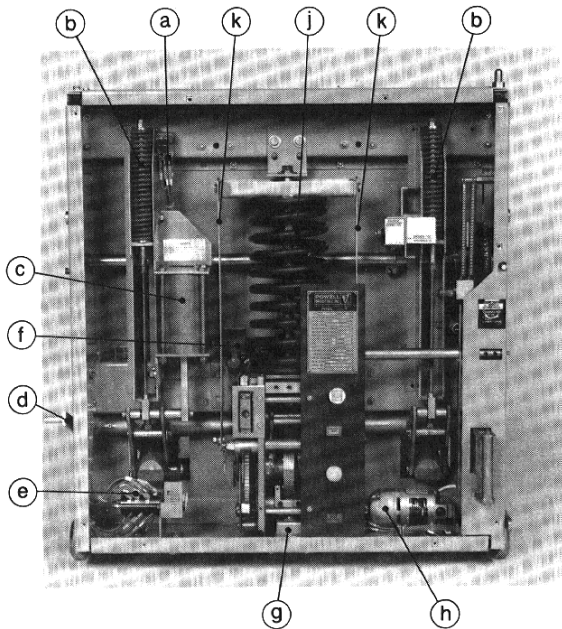

Figure 3. Front View of a POWL-VAC Circuit Breaker with Cover Removed
Removal of nine (9) holding screws enables the front cover to be removed, giving access to the stored energy mechanism and its interlocks, auxiliary switches, levering-in operators and interlocks, operating motor and motor cutoff switch (Figure 3).
prop roller and the secondary trip prop is controlled by the primary trip prop adjusting screw. When the trip shaft is rotated by the action of the manual trip plate or the electric trip solenoid, the secondary trip prop moves down and permits the primary trip prop to move upward, thus permitting the main linkage to move upward and the jack shaft to rotate, opening the breaker. The jack shaft extends from the left to the right side of the breaker frame and is supported at the main breaker frame side sheets and by the mechanism side sheets. The two outer operating rod levers on the jack shaft have connections to the breaker opening springs (Figure 3). A projection of the left lever engages a shock absorber which controls the rebound of the interrupter contacts on opening operations. An extension of the jack shaft projects through the left breaker side sheet and operates the MOC switch drive.